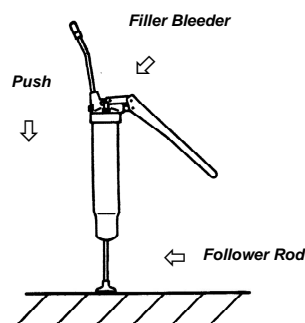

Figure 5
- 6) Bleed the air from the grease gun (see Figure 5).
- 3) Push the grease gun firmly down while holding the filler bleeder valve open (see Figure 5)